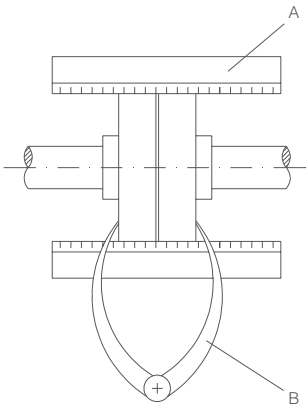

Figure 1
Place a straight-edge (A) on top of the coupling: the straight should make contact with both halves of the coupling over their entire length. See figure 1.